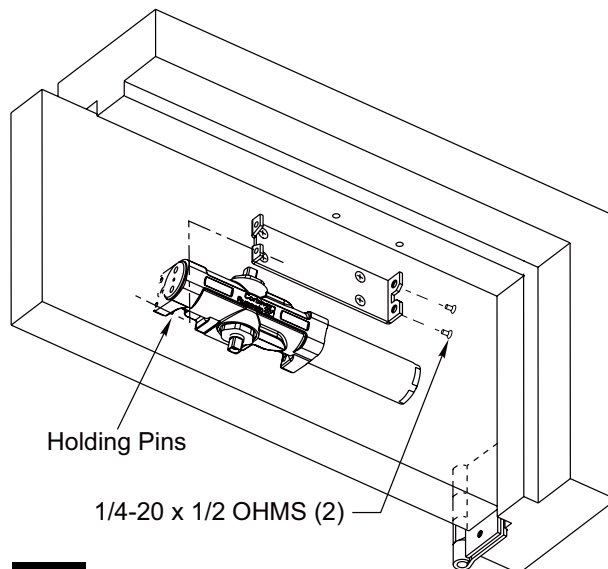

Figure 6
3. Mount Closer Body to Closer Bracket. (Figure 6)